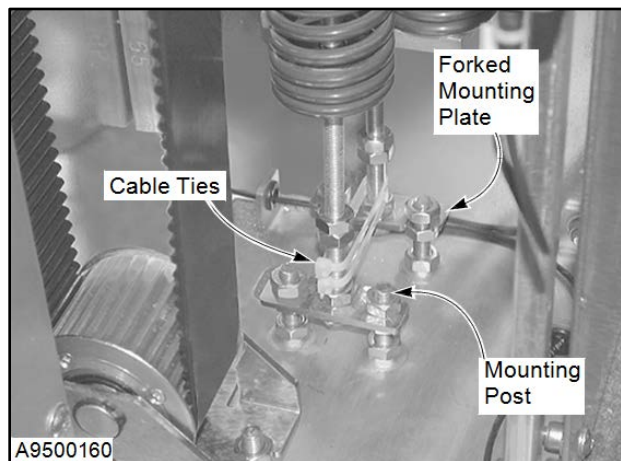

Figure 57
12. Attach the spring pack to the mounting posts on the base plate. Tighten the lower nuts against the bottom of the mounting plate to retain the preload setting of the spring pack. (See Figure 57.)